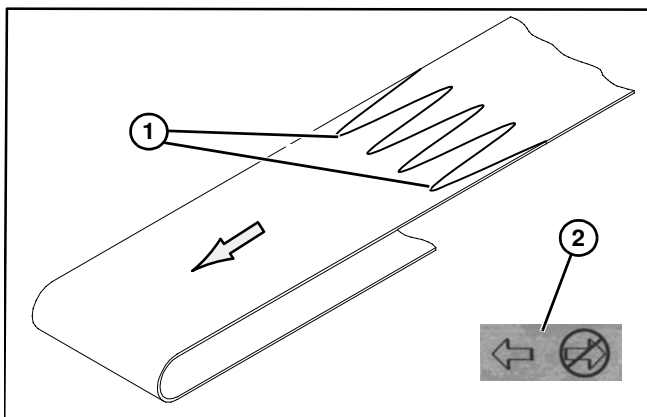

Figure 75
2. Orient belt so splice outer fingers (**Figure 75, item 1**) point in the direction of belt travel as identified by the conveyor directional label (**Figure 75, item 2**).